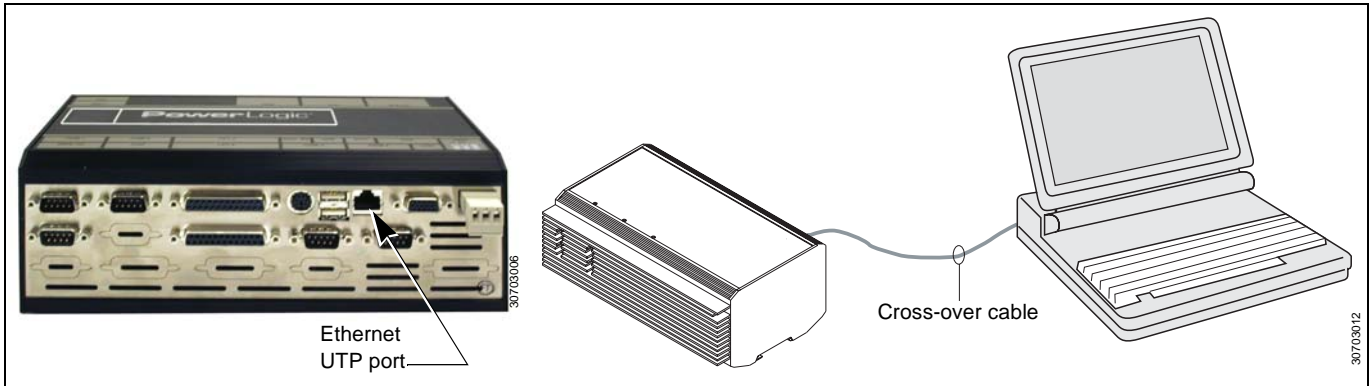

Figure C-1: Cross-over connection for Power Server configuration
1. Connect the cross-over cable from the Ethernet UTP port on the Power Server to your PC as illustrated in Figure C-1.